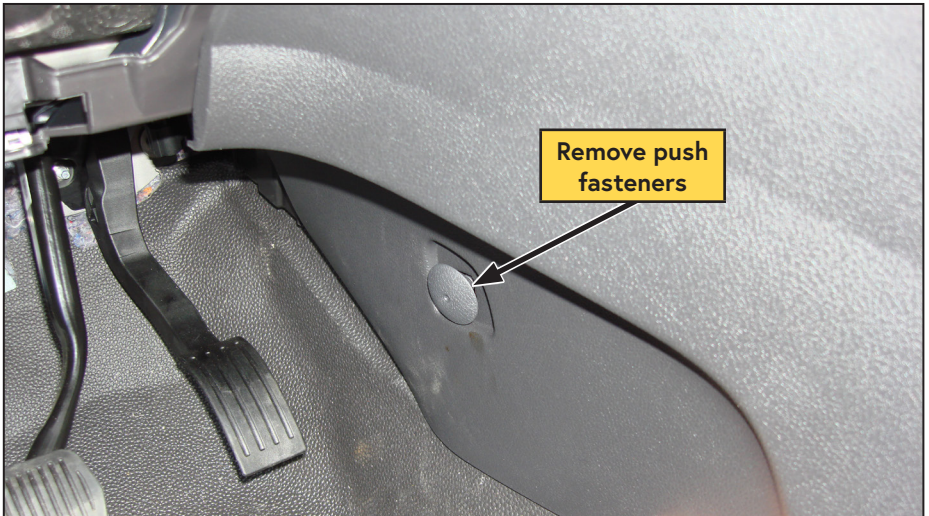

Figure 10 — Remove lower dashboard
- Remove the push fasteners from both sides of the lower dashboard panel (Figure 10).